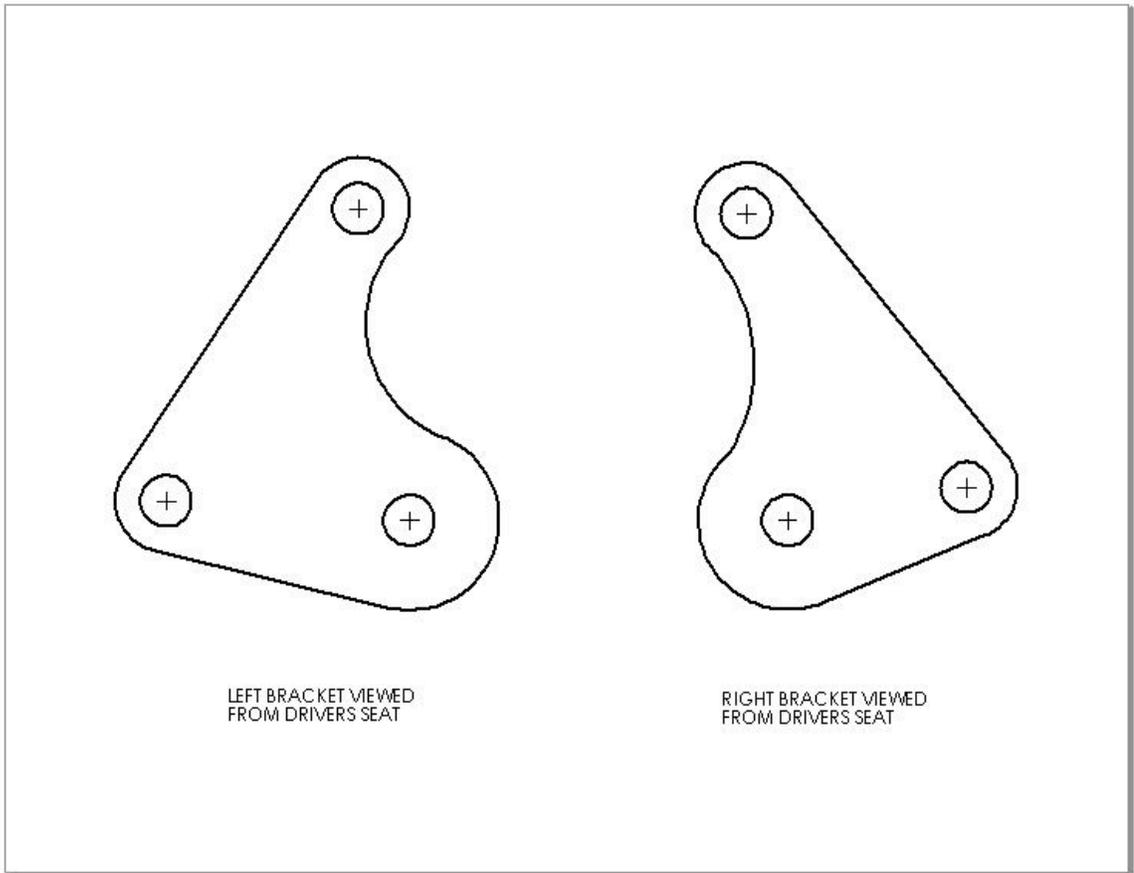

Figure 1. Bracket layout.
- 7) Using the new hardware and rack bushings, mount the right and left rack brackets (view right and left from sitting in the driver's seat) to the rack first. Leave the nuts and bolts snug, but not tight, so the brackets can be rotated. See figures 1 and 2.